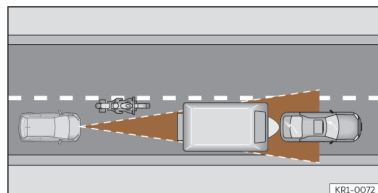

Fig. 121 Motorcyclist ahead out of range of the radar sensor.
- Vehicles that are not aligned while driving or that are outside the sensor's detection area, such as motorcycles >>> **Fig. 121.**